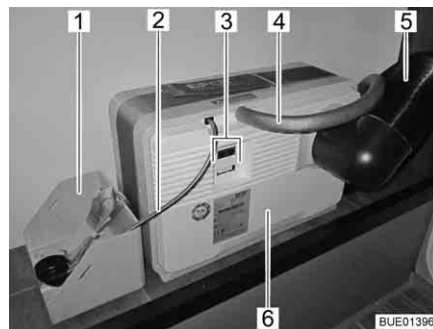
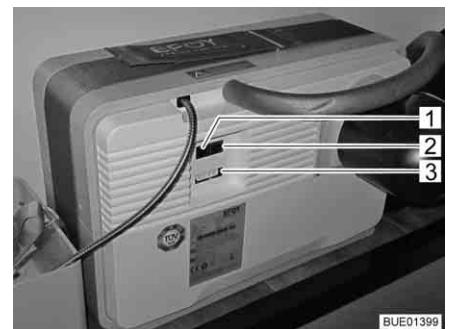

Fig. 151 Fuel cell with tank cartridge
Fig. 152 Connector panel of the fuel cell
The fuel cell consists of several components that are installed in the rear storage space (Fig. 151) and of an operating unit (Fig. 153) in the living area.
The following components are on the fuel cell (Fig. 151,6):
- The connector for the air discharge hose (Fig. 151,4) or the filling hole for the service fluid
- the off-heat tube (Fig. 151,5)
- electrical connections (Fig. 151,3) with data interface (Fig. 152,2), device connection (Fig. 152,3) and connection for the operating panel (Fig. 152,1)
A tank cartridge belongs to the fuel cell (Fig. 151,6). It is connected to the fuel cell via a tank connection (Fig. 151,2).
The tank cartridge is firmly fixed in the tank cartridge holder (Fig. 151,1).